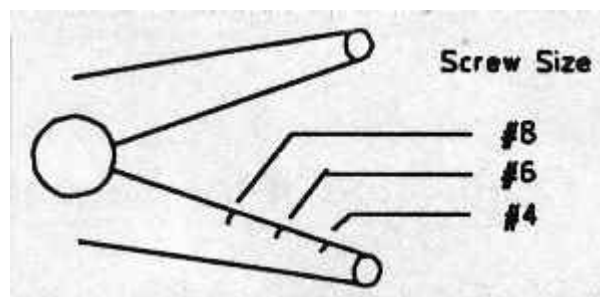

Figure 3. Plier Jaw Marking.
- To make the mark more visible, fill it with white lacquer stick. The final result is illustrated in Fig 3.